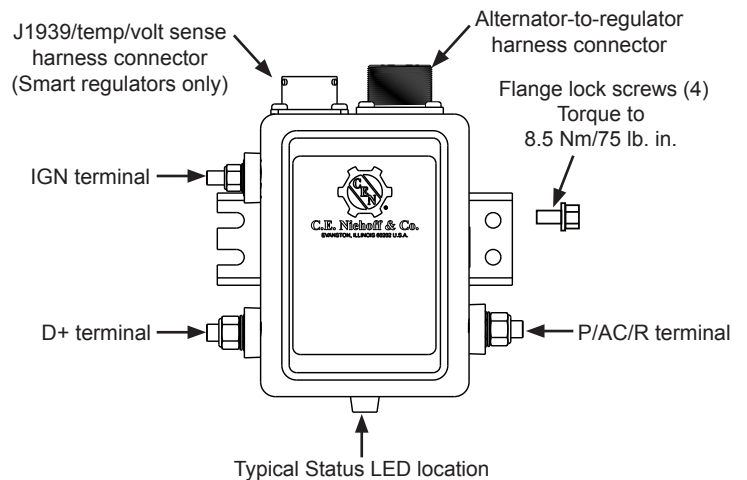

Figure 6: Typical Smart Voltage Regulator Connections
6. If using a J1939/temperature-voltage sense harness, plug J1939 harness into J1939 receptacle on regulator. See Figure 6 for receptacle location. Reference installation instructions included with harness for more information. Harness sold separately².